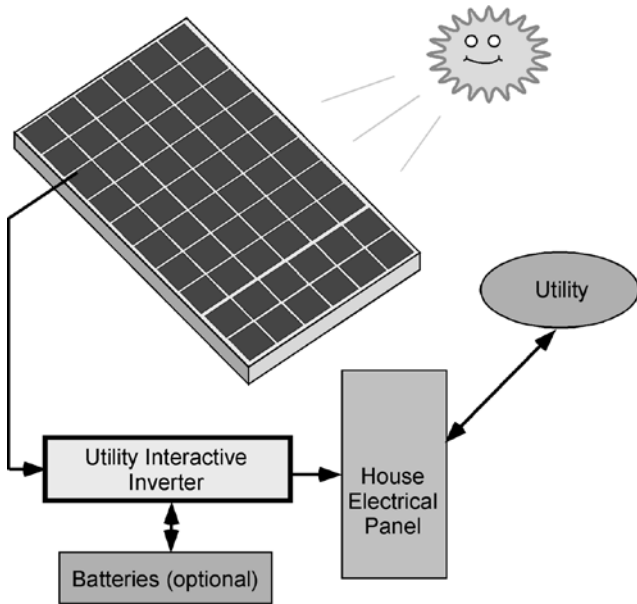

Figure 5 — Schematic of a utility-connected system
Utility-connected systems, sometimes called “grid-connected” systems, are for homes or commercial buildings that are connected to an electric utility. They are designed to provide a portion of the building’s total electricity needs. These systems generate the same alternating current (AC) electricity provided by your utility and work interactively with utility power to maximize the output of your solar array (see Figure 5).